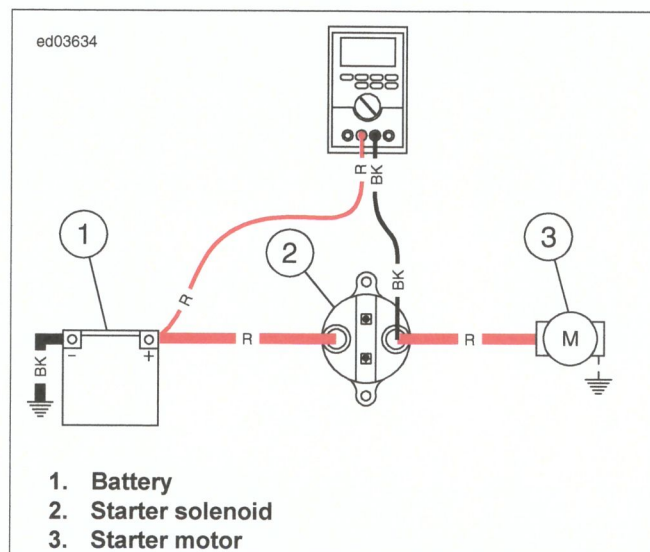

Figure 1-9. To Starter Solenoid Starter Terminal
2. See Figure 1-9. Move the black meter lead to the starter side post of the starter solenoid. Crank the starter.